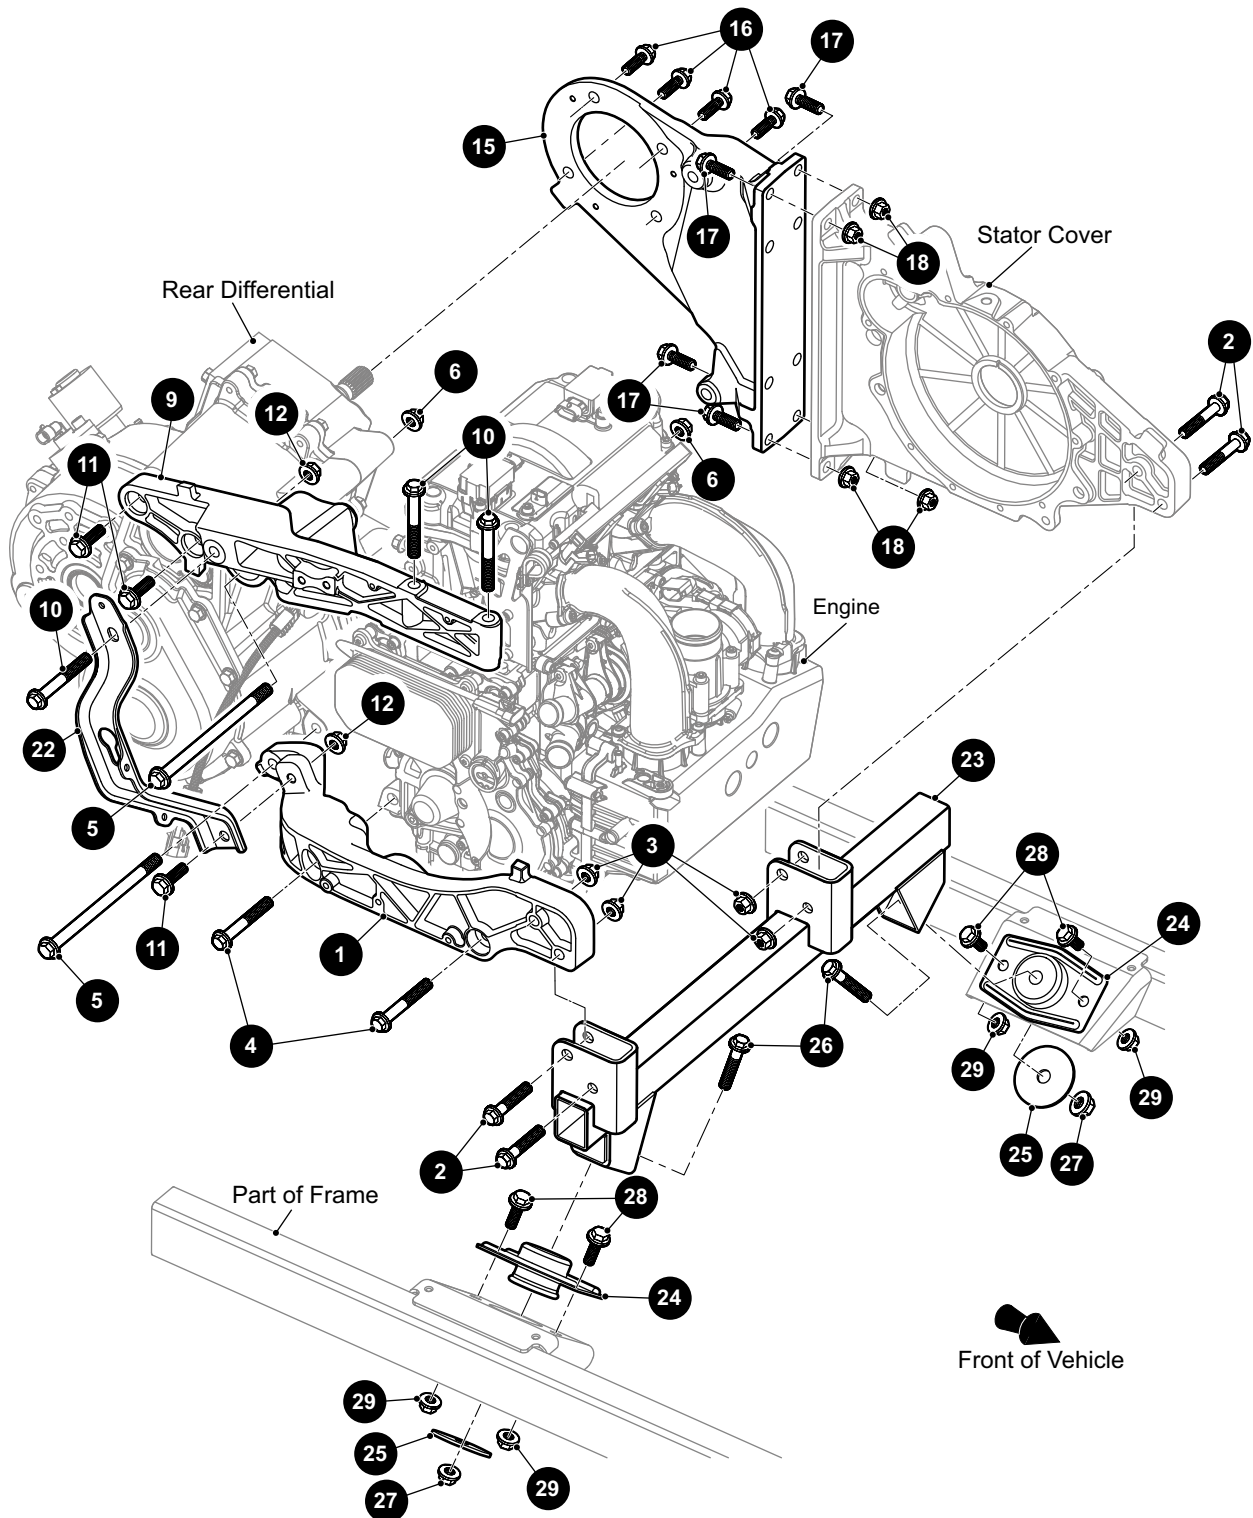

Fig. 14 Engine Mounting Components
Remove the lock nut (27), washer (25) and bolt (26) that secure the engine to each side of the frame (Ref. Fig. 14).